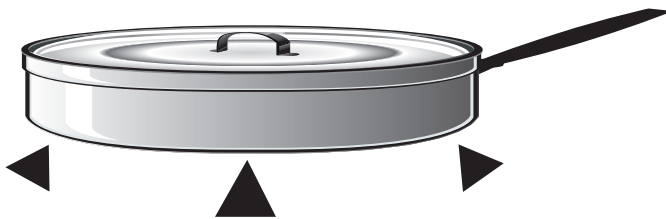

Figure 7: Balanced Pan
- Check each burner to make sure there is no gap between the burner cap and burner base. See *Figure 7: Correct and Incorrect Burner Cap Placement* to see examples of correct and incorrect placements of the burner cap.
- You may gently try to move the burner caps from side to side to check if the caps are properly placed on the burner bases. When properly placed, each burner cap will rest flat on top of its burner base, and completely cover the star-shape of the burner base when viewed from the top as shown in *Figure 7*.